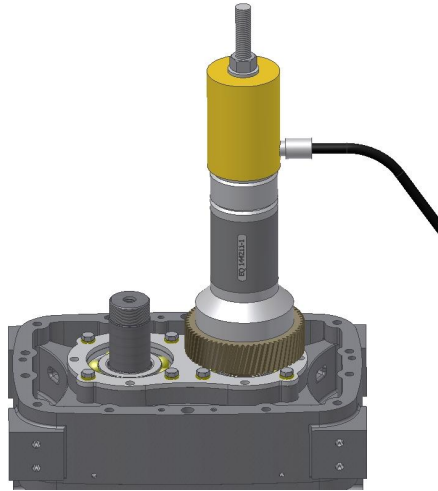

Figure 9-9 – PINION GEAR INSTALLATION
38. Install key (36) into keyway on idler rotor shaft.
41. Place heated gear onto idler rotor shaft (over pull rod) and align keyway with key in shaft. Place driver tool EQ144211-1 over pull rod. Place portable hydraulic cylinder over pull rod and onto driver tool. Install 3/4" flat washer and nut onto pull rod and tighten against hydraulic cylinder. Press gear onto rotor shaft until tight against bearing inner race. To ensure gear remains tight against bearing race, do not remove tooling until gear has cooled to at least 120°F. Reference FIGURE 9-9.